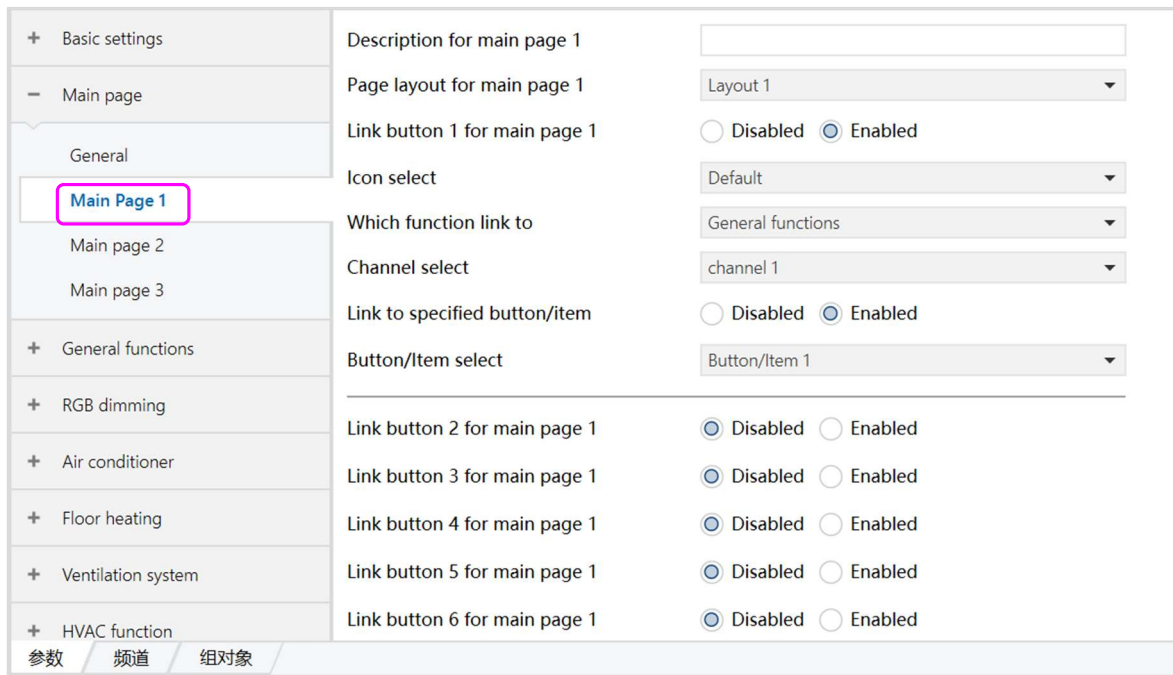

Figure 6.2.2
Click the General option, the parameter "Main page1-Main page3" appears, and three main pages can be selected. When "Enabled" is selected, the options in the red box are shown as in Figure 6.2.2:
(2) Click the options in the red box above to set the relevant parameters, as shown in Figure 6.2.2